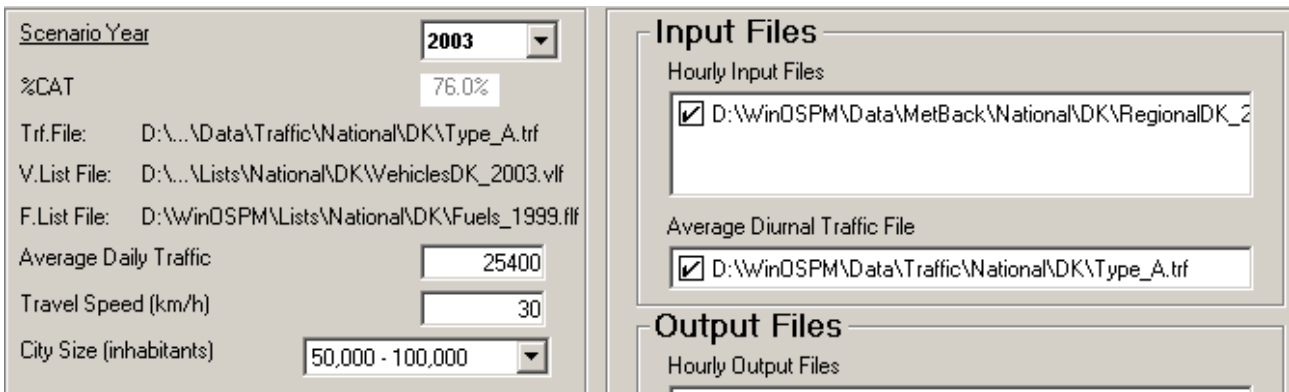
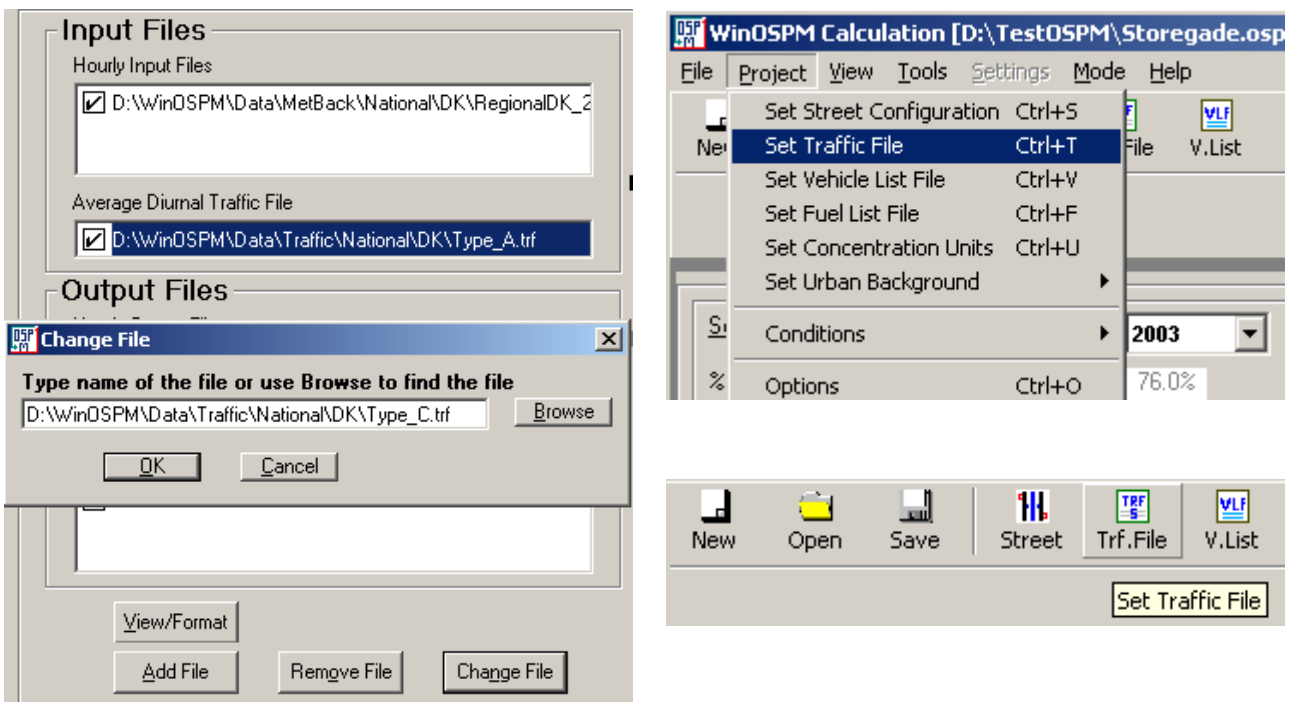
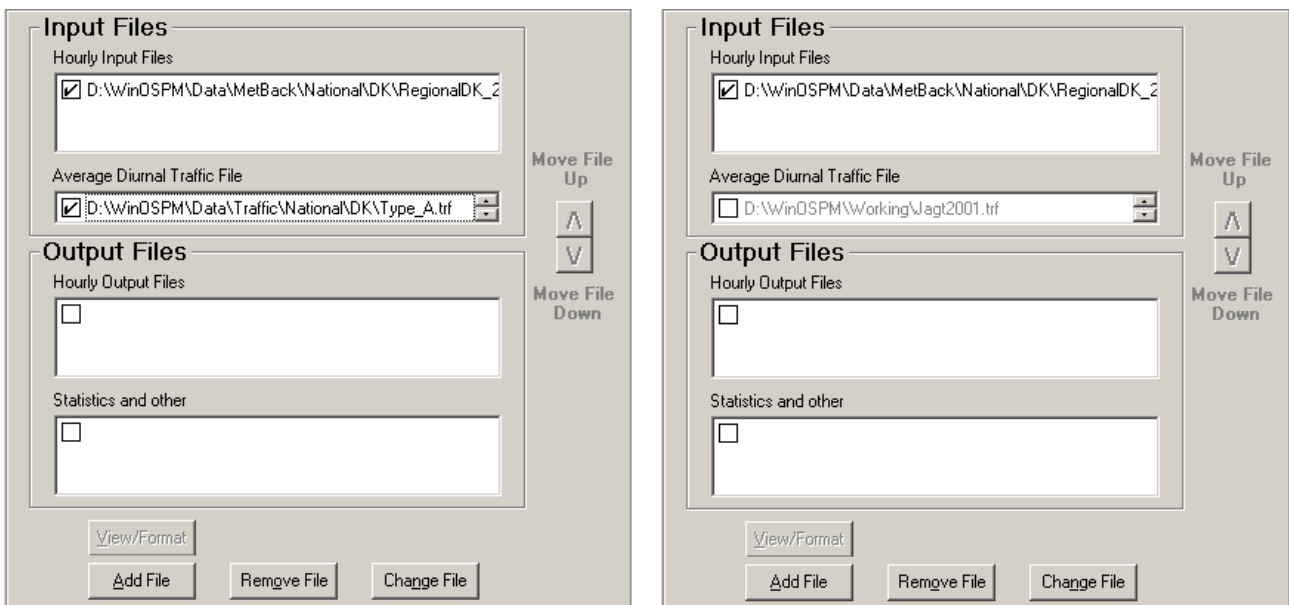

Fig. 7.4 Part of the "Calculation" window relevant for assignment of traffic data
Fig. 7.5 Two methods for changing Traffic file are illustrated (left and right).
Fig. 7.6 Changing the file with Average Diurnal Traffic
For an existing project, changes of data take place through the “Calculation” window. *Fig. 7.4* displays the part of the “Calculation” window that is relevant for traffic data.
- With the mouse, select the name of the file (important: single click only). The “Change File” button becomes activate, and pressing it will open the “Change File” dialog box (*Fig. 7.5*, left). The name of the new traffic file can be typed here, or the new file can (after pressing the “Browse” button) be selected using Windows standard “Open File” dialog box.
- Exactly the same result can be achieved using the menu item **Project / Set Traffic File** or the corresponding toolbar icon (Fig. 7.5, right).
If the file is of the "Default" type, i.e. contains traffic data given as fraction of daily total, the two text boxes in Fig. 7.4 labelled "Average
Besides changing the traffic file, the user can add an additional traffic file to the current project. This can be done using the "Add File" button, as shown in Fig. 7.5, left. Before pressing the "Add File" button, the field with the traffic file name must be selected (single click only!). The additional traffic file is added by typing its name in text box of the "Add File" dialog box, or by using the "Browse" button. The name of the additional traffic file will not appear immediately in the list box under the heading "Average Diurnal Traffic" but an up-down button will appear at the right end of this box (Fig. 7.6). By scrolling this box, using the up-down button, the user can see which traffic files are currently available. Only one of the traffic files can be the active traffic file, namely the one with a selected check box. Only the active traffic file is used in the calculations. The name of the currently active traffic file appears in the upper-left frame of the "Calculation" window, next to the label "Trf.File" (Fig. 7.4). Only the name of the currently active traffic file is saved together with the project file. This behaviour is different from all other Input/Output files.
- Select the traffic file name (single click) and press the **View/Format** button (see e.g. Fig. 7.5). The traffic file must be active, i.e. the check box to left of the file name must be checked.